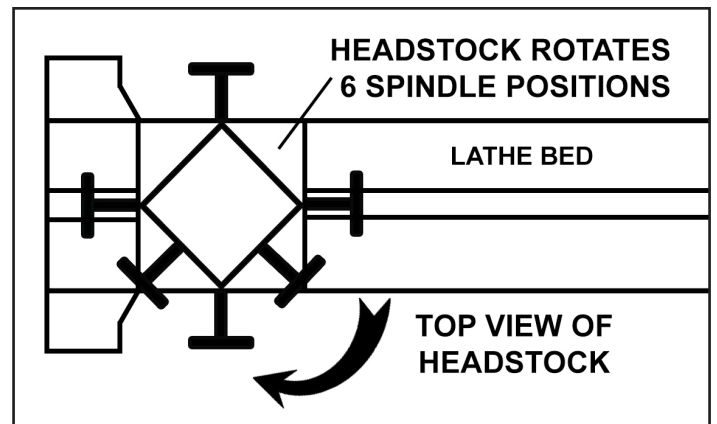

FIG. 5
2. **HEADSTOCK INDEXING PIN:** (B) The headstock can rotate 360° on the bed to allow the user to turn in six positions - 1 for 'inboard' spindle turning and 6 for 'outboard' faceplate turning (5 with the use of a free-standing tool rest). The Indexing Pin secures the headstock when rotated to one of the six positions. FIG. 5.
- Unlock the headstock Locking Handle (A).
- Pull out the front Knob (B) to unlock the plunger and to release the headstock.
3. **HEADSTOCK SPINDLE LOCK:** (C) This push Pin is used to keep the spindle from turning, so that faceplates, chucks or other accessories that have been mounted on the threaded spindle can be mounted, or removed.